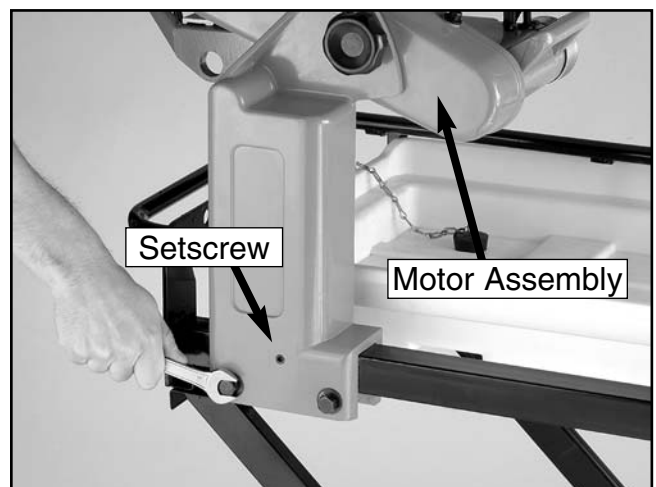

**Figure 8.** Attaching the pivot shaft to the riser block.
5. Slide the pivot shaft into the riser block as shown in **Figure 8**. *Be sure the notched end of the pivot shaft is positioned correctly.*
6. Secure the assembly with a M10-1.5 x 10 setscrew as shown in **Figure 8**.